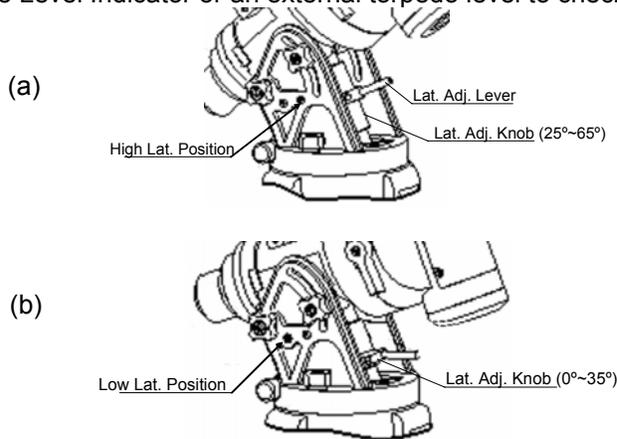

Figure 2
2. **Attach the iEQ30 Mount:** If the latitude is between  $25^{\circ}$  to  $65^{\circ}$ , set the Position Safety Pin at High Latitude Position, as shown in Figure 2 (a). For latitude between  $0^{\circ}$  to  $35^{\circ}$ , set the Position Safety Pin at Low Latitude Position, as shown in Figure 2 (b). Install the matching Latitude Adjustment Knob as well. The factory set default position is High Latitude Position ( $25^{\circ}$  ~  $65^{\circ}$ ).
3. **Set the Location Latitude:** Unlock R.A. Clutch and adjust the mount upright. Tighten the R.A. Clutch. Unscrew four Latitude Locking Screws. Turn the Latitude Adjustment Knob to set your current latitude (Figure 2), which is displayed in Latitude Mark Window on the side of the mount. Using the Lever for a fine adjustment if needed.